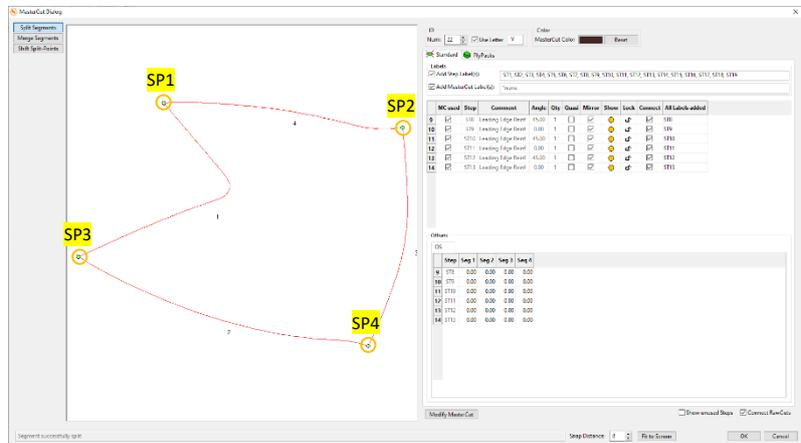

Figure 292
- 88. Repeat these steps for MasterCut V and split the outer geometry as shown in following Figure 292...